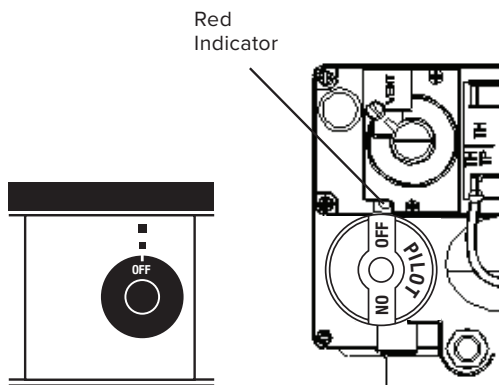

Fig. 1
3. **Set Thermostat to "OFF":** Turn the thermostat knob to align the "OFF" marking with the hole in the panel (Fig. 1).